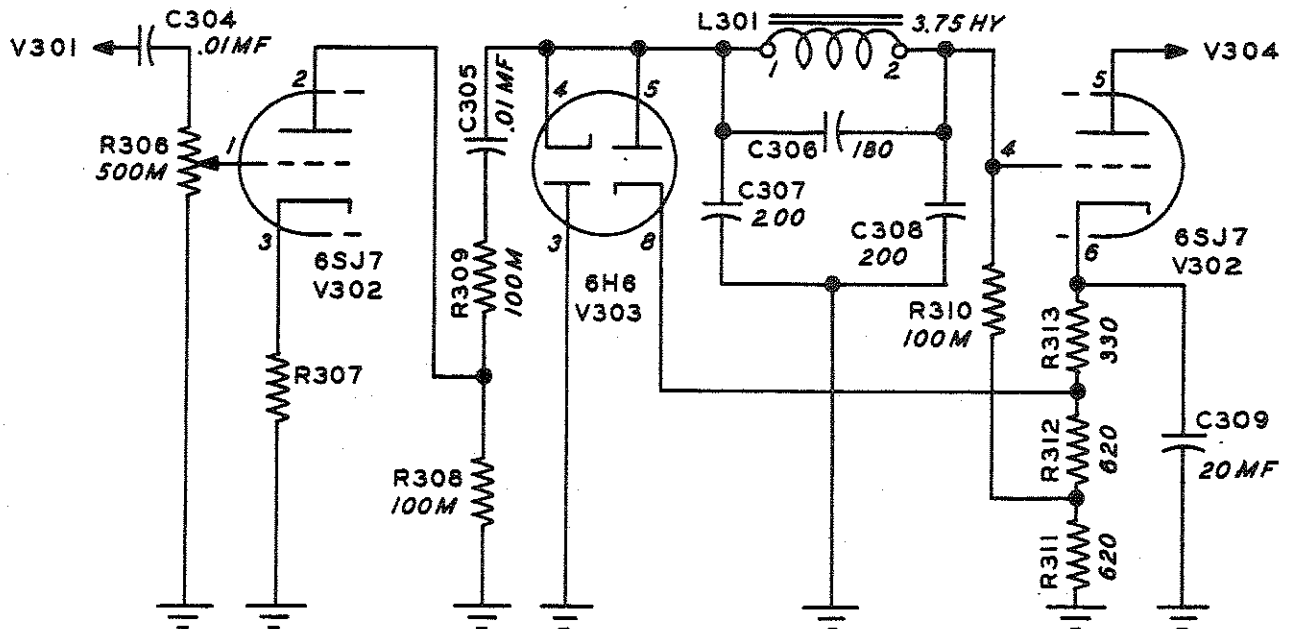

Figure 2-2 Speech Clipper Circuit
(2) SPEECH AMPLIFIER CIRCUITS. - Refer to figure 2-2. A 6SJ7 tube, pentode connected, is employed as a high gain voltage amplifier in the input stage of the speech amplifier. The 6SJ7 input tube is followed by a 6SN7 dual triode tube, the first section of which precedes the 6H6 clipper tube. Refer to the schematic of the transmitter unit. The 6H6 clipper tube is shunted across the audio input to the second section of the 6SN7 audio amplifier tube. Notice that the cathode of one section of the 6H6 tube (pin number 4) is operating at a small fixed value of positive potential by virtue of being connected through reactor L301, resistor R310 to a tap on the cathode resistors R310, R312, and R313. This positive cathode potential biases the corresponding diode plate and no current flows through this section of the tube. However, when the magnitude of the negative audio peaks applied to the diode cathode become large enough to overcome the fixed positive potential, current flows through this section of the diode and the negative audio peak is attenuated by the short circuiting action of the diode. Likewise, the cathode of the second section of the clipper tube is returned to a tap on the 6SN7 amplifier cathode resistor which is more positive than the tap where its corresponding plate is attached. Thus the plate of the second section of the 6H6 is more negative than the cathode and no current flows. When a positive audio peak of sufficient magnitude reaches this diode plate the fixed negative bias is overcome and current flows through the second section of the diode and the positive audio peak is attenuated. Because of the above action the audio output of the second section of the audio amplifier tube cannot rise above the fixed level. Therefore, it is possible to set the degree of modulation with the Clipper Control R315 and be assured that the percentage of modulation will not rise above the chosen amount.